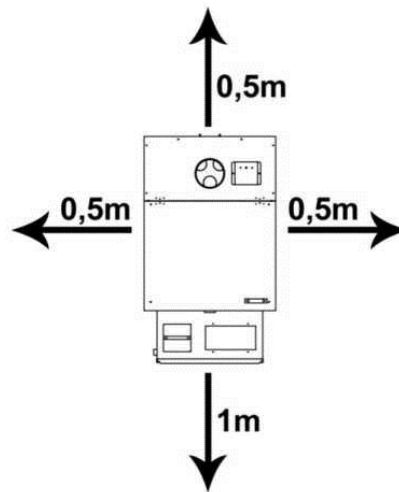

Fig. 2. Minimal safety space around the device
- place the heater on a flat, concrete floor, in the spot allowing free space around the device, according to Fig. 2.,